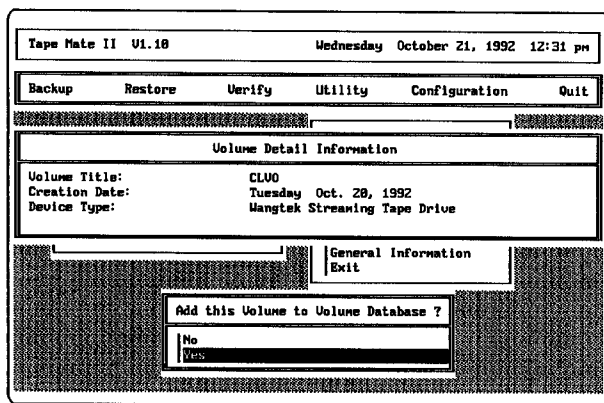

Figure 68 Volume Detail Information Dialog Box
2. Mount the volume and press [F2]. The Volume Detail Information dialog box and the Add Volume dialog box display. See *Figure 68*.